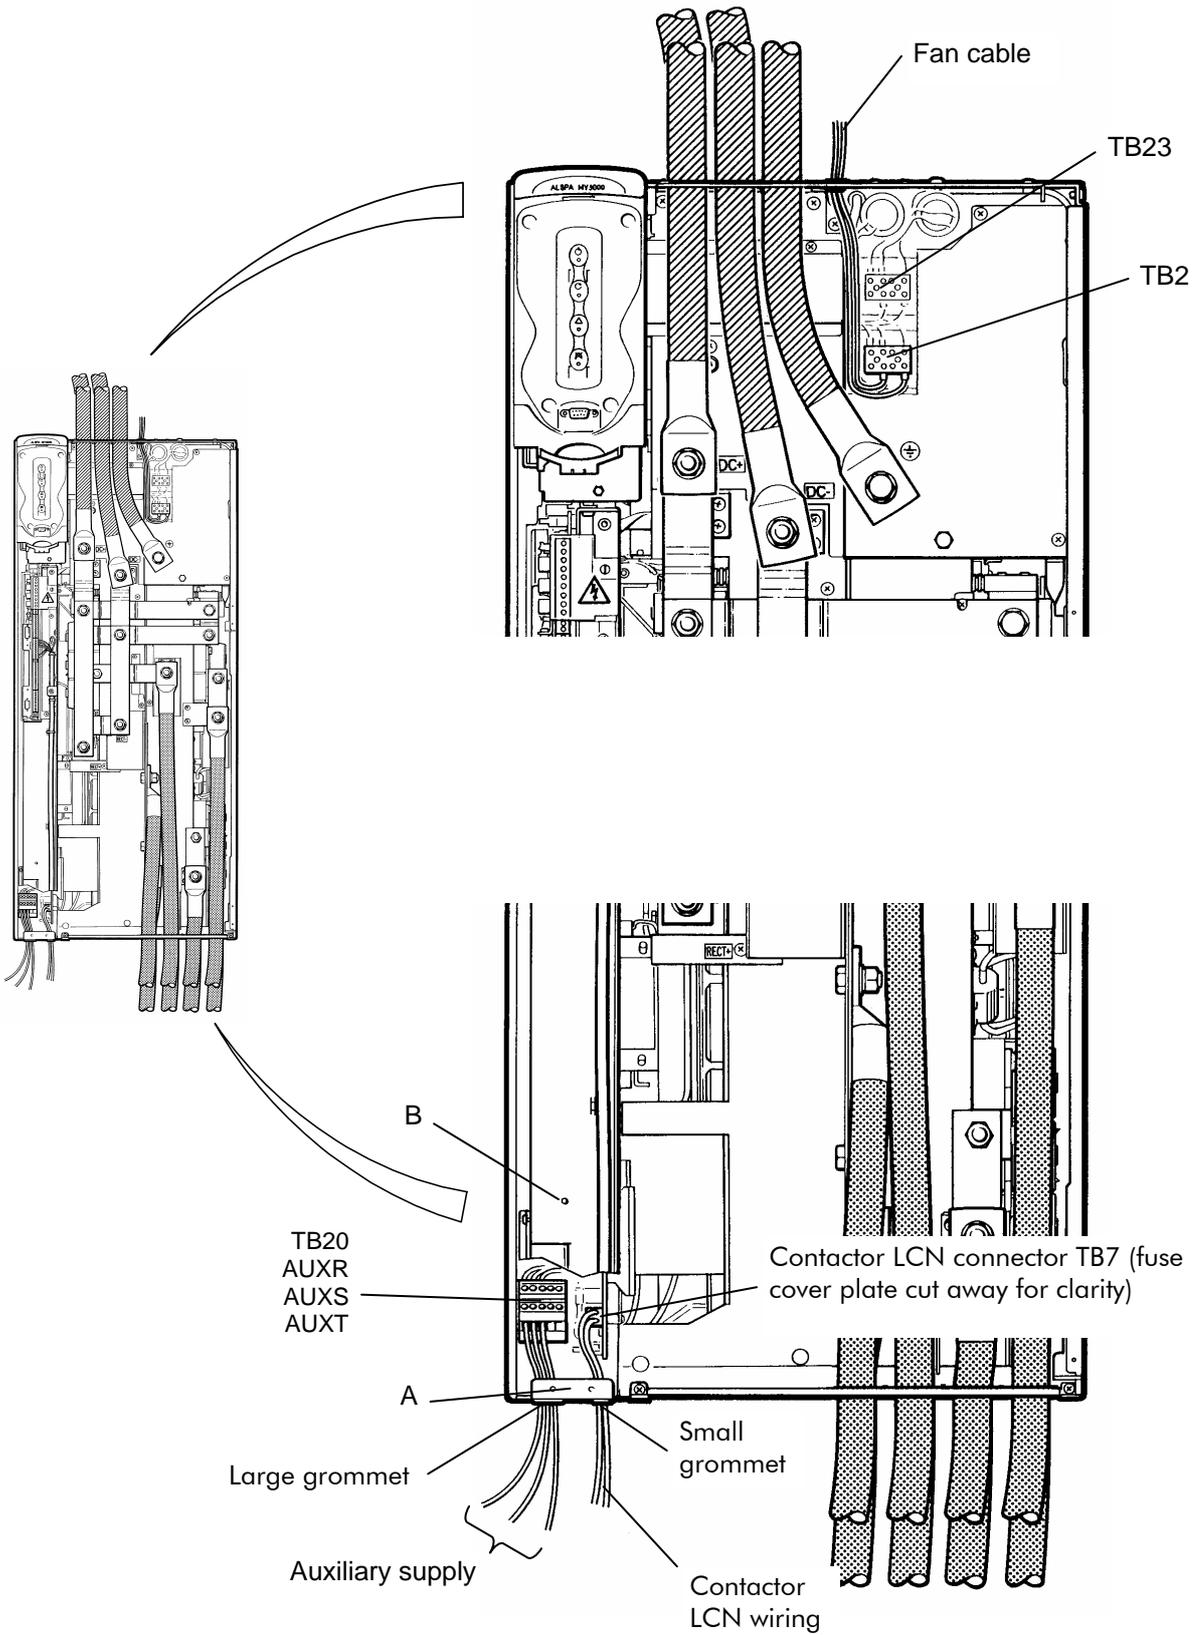

Figure 3-15 Ancillary wiring for frame size 7
(See Figure 3-15)
<p>Contactor LCN Wiring</p> <ol style="list-style-type: none"> 1. Refer to Figure 3-13. Remove the M5 taptite screw (X) securing the plastic shroud to the chassis. 2. Remove the six M5 taptite screws (Y) securing the fuse plate cover and withdraw the cover, complete with the plastic shroud. 3. Refer to Figure 3-15. Using suitable wire (see Section 3.7.4), connect the fan transformer to TB7 pin 1 on the pre-charge pcb. Route the wiring up through the grommet on the converter base, beneath TB7. 4. Connect a similar wire from the contactor coil, up through the same grommet, to TB7 pin 2 on the pre-charge pcb. 5. Refer to Figure 3-13. Re-fit the fuse cover plate and plastic shroud using the seven M5 taptite screws (X) and (Y).